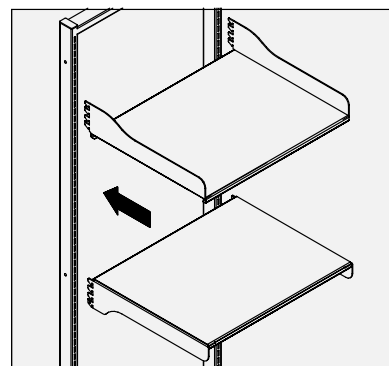

Fig. 8B
- A. Mounting Shelves and Book Shelves are available with upward or downward facing brackets (Fig. 8B).
- C. Mark slots on both sides of Frame at the same level at which shelf is to be mounted (Fig. 8B).